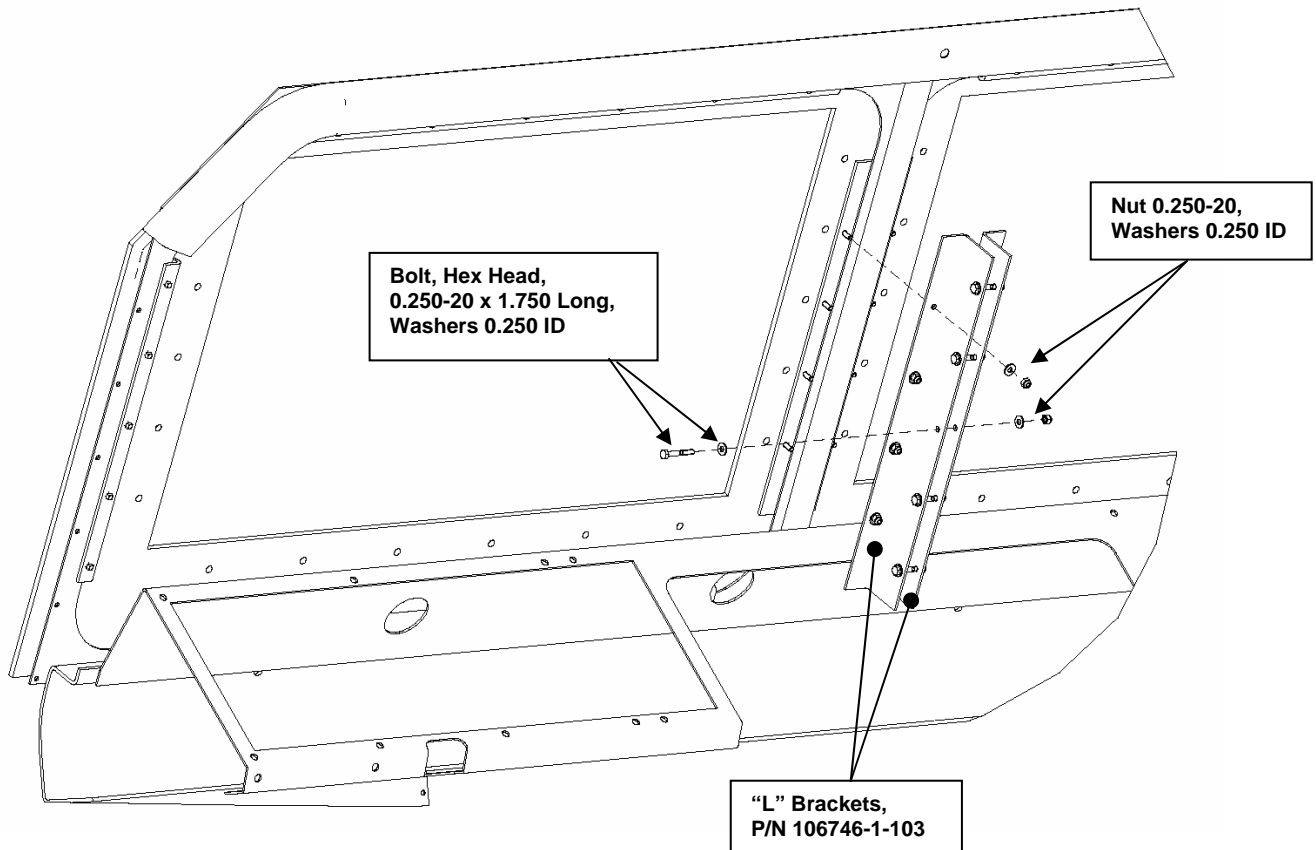

Figure 20. "L" Bracket Installation.
- m. Attach the Windshield Frame Assembly to the vehicle as previously done in Step (g) using thirty-six (36) 0.250-in. self-locking nuts and thirty-six (36) 0.250-in. ID washers. Apply light oil to the studs prior to installation of the nuts. Torque to 6 ft-lb.
- p. Install the “L” Brackets (P/N 106746-1-103) using the fasteners, as shown in Figure 20. Apply light oil to the studs prior to installation of the nuts. Torque to 6 ft-lb.